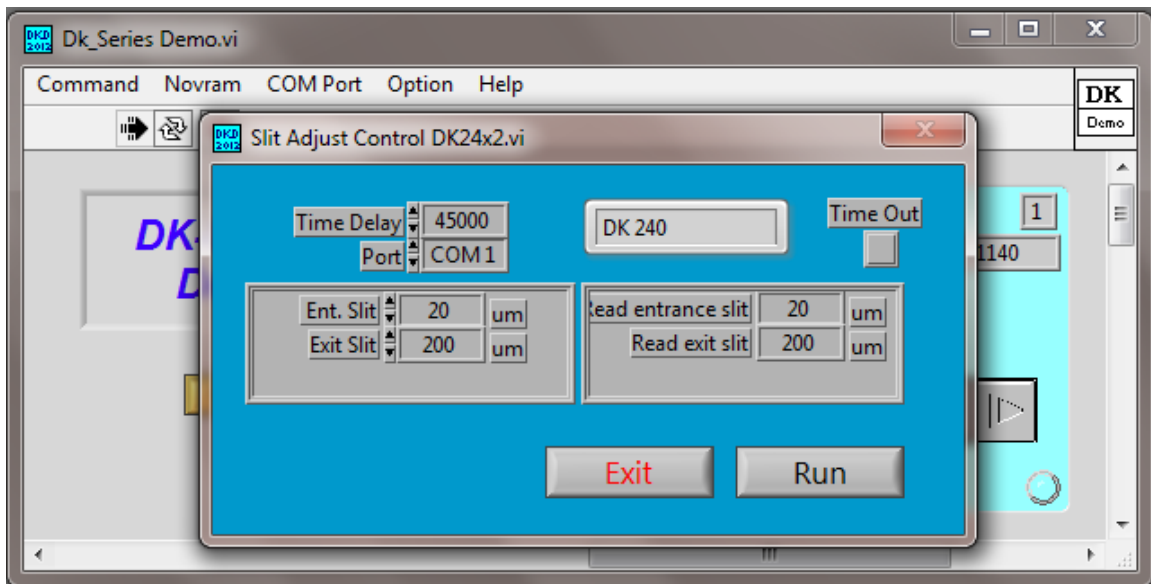

Figure 8. Slits
9.2.4 Slits – This vi allows the user to select individual slit width settings in micrometers (Fig 8).